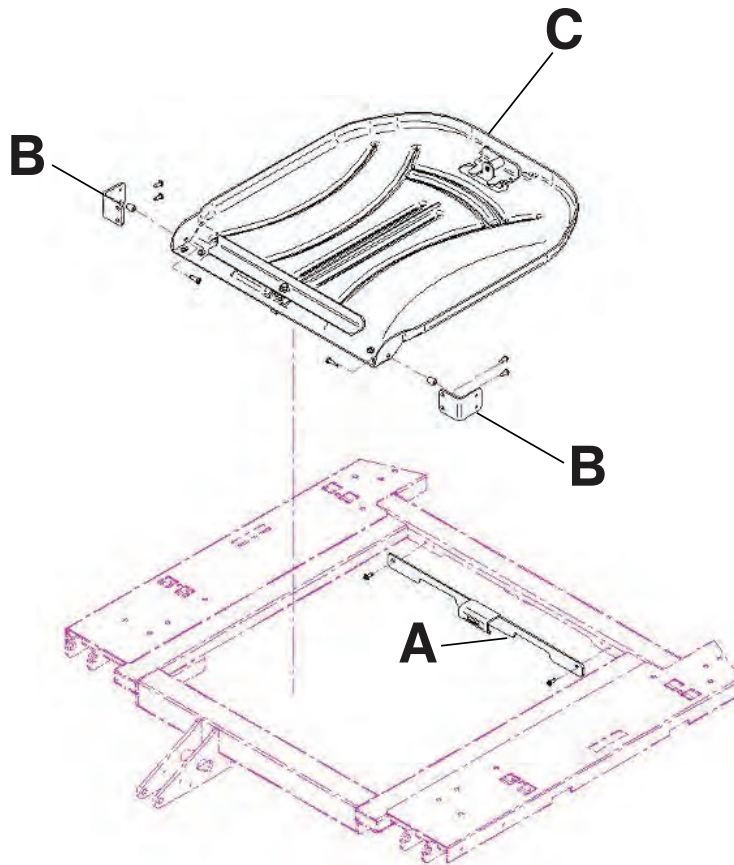

Figure 1-137: X-ray cassette holder
3. Turn the battery switch to the OFF (O) position.
5. Using a #2 Phillips screwdriver, install two screws to secure the fastener (A) to the top of the fowler frame (Figure 1-137 on page 1-116).
6. Using a #2 Phillips screwdriver, install four screws to secure the two cassette holder pivot brackets (B) into the lower fowler section (Figure 1-137 on page 1-116).
7. Using a #2 Phillips screwdriver, install two screws and two spacers to secure the X-ray cassette holder (C) into the cassette holder pivot brackets (B) (Figure 1-137 on page 1-116).